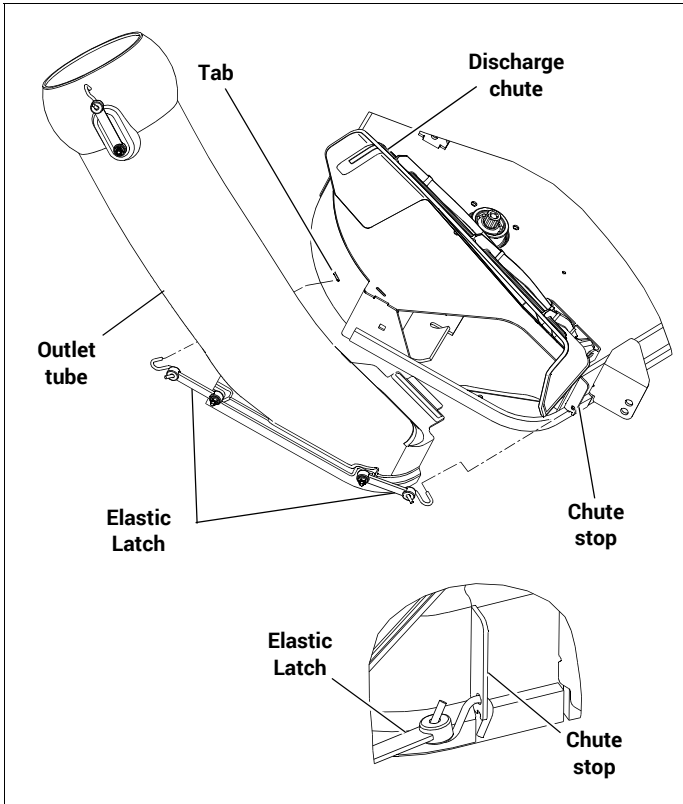
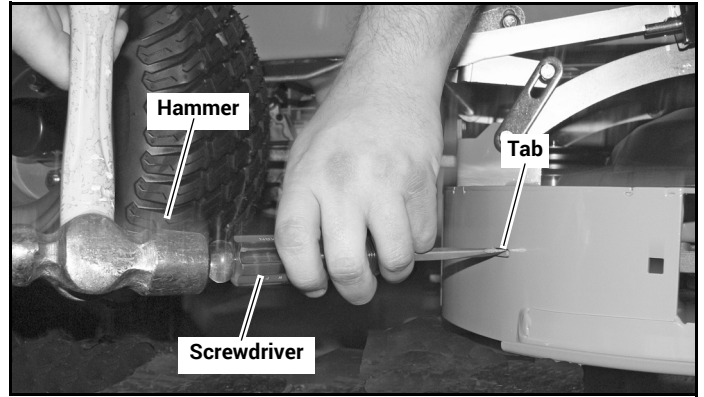
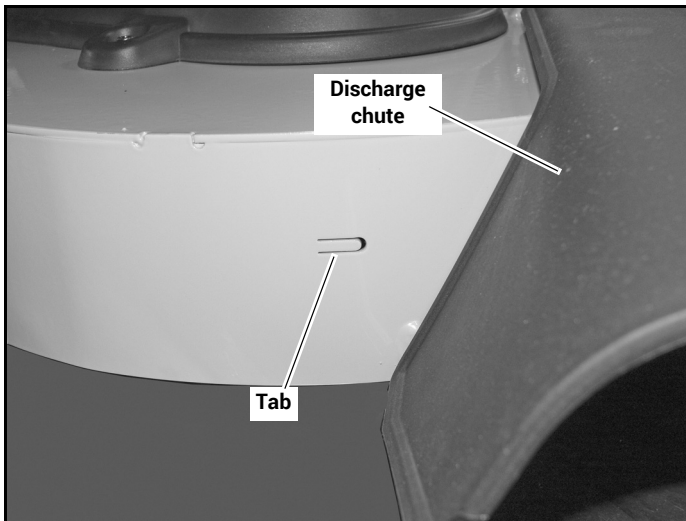

Figure 3-5
Figure 3-7
Figure 3-6
10. There is one tab located at the rear side of the deck that will need to be bent inward. Use a hammer and screwdriver to bend the tab inward enough to allow the steel hooks of the elastic latch on the outlet tube to be inserted into the slot. Figure 3-5, Figure 3-6 & Figure 3-7
Secure the outlet tube in place with the elastic latches. Figure 3-5